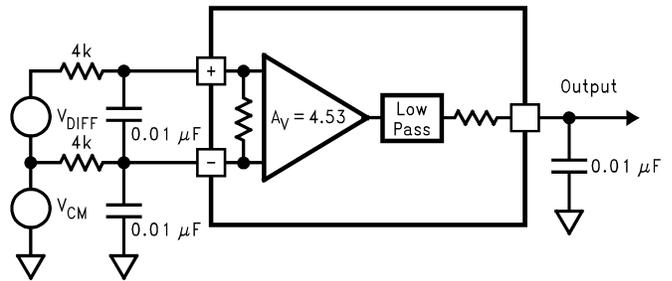

Figure 3. AC Test Circuit
- (1) Absolute Maximum Ratings indicate limits beyond which damage to the device may occur.
- (2) If Military/Aerospace specified devices are required, please contact the Texas Instruments Sales Office/ Distributors for availability and specifications.
- (3) The input voltage must be applied through external 4 k Ω input resistors. See Figure 3. Amplifier operation will be disrupted, but will not be destructive.
- (4) ESD Rating is with Human Body Model: 100 pF discharged through a 1500 Ω resistor.